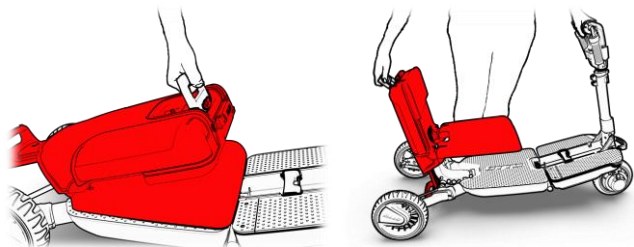

Figure 14
- Using the handle, pull the back of the chair backward until it clicks and locks in place (see Figure 14).